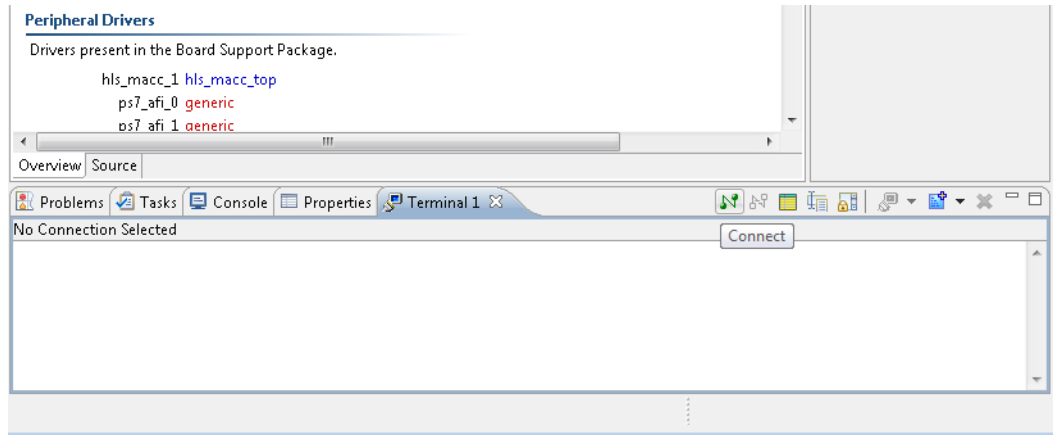

Figure 10-23: The Connect Icon
- a. Click the **Connect** icon (Figure 10-23).